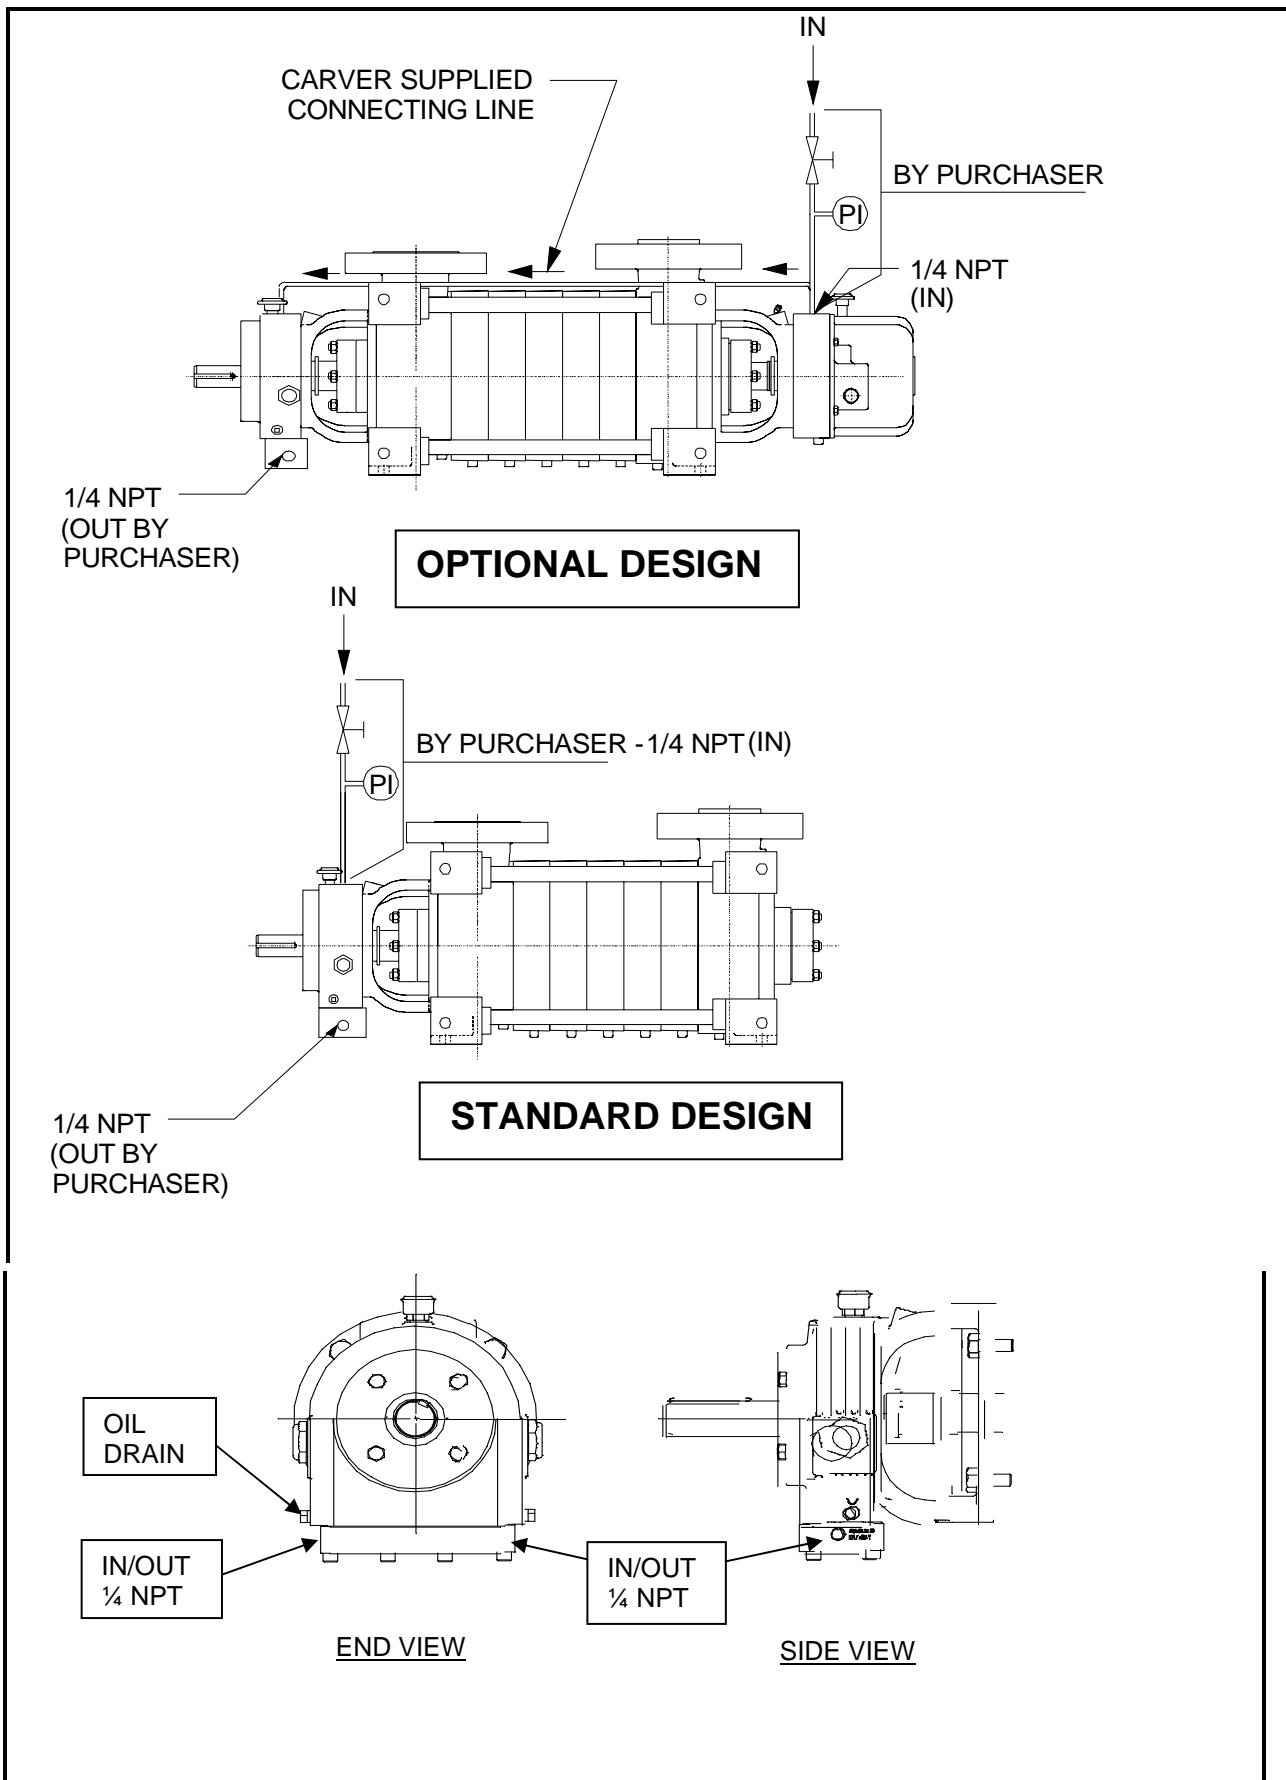

Figure 1. Water Cooling
Pump operating temperature for uncooled bearings should NOT exceed 225 degrees Fahrenheit (F). Pumps of high temperature construction are provided with cooled bearings with an operating temperature range between 225 and 410 degrees F. Cooling water flows through cavities of the bearing frame and keeps temperature of the bearings within acceptable limits. Refer to Table 3 for cooling flow rates of water temperature of 60 degrees F for bearings. Refer to Figure 1 illustrating the water cooling (60 PSIG MAX.) system.